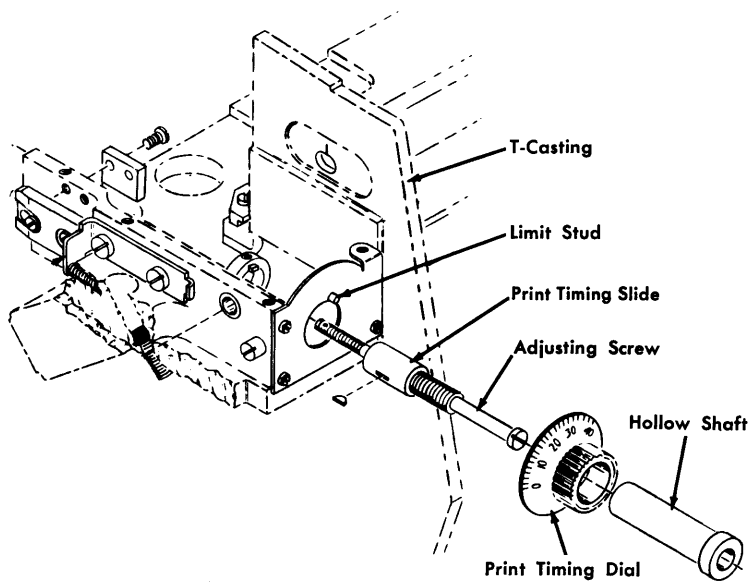

Figure 7. Print-Timing Dial Adjustment
8. Adjust the timing-dial screw (Figure 7) until the maximum number of printed characters is centered on the hammer impression marks. Maintain the dial setting of: